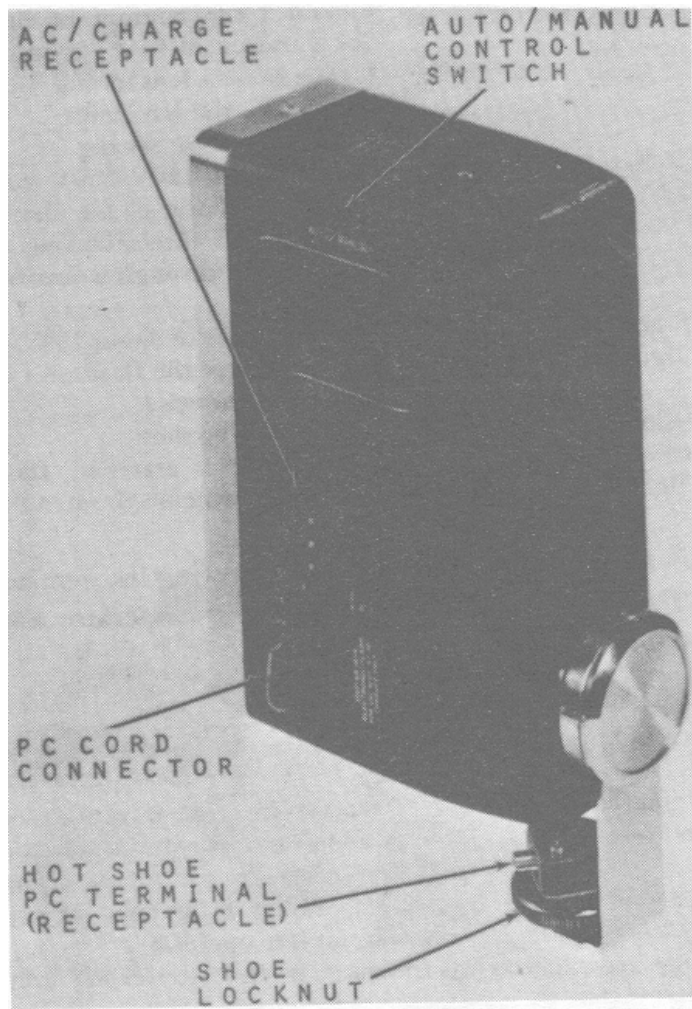

FIGURE 1-24. Flash unit (rear view).
Step 1.	Check to see that outlet has power. If there is no power, use another outlet or switch to DC operation (figure 1-24).